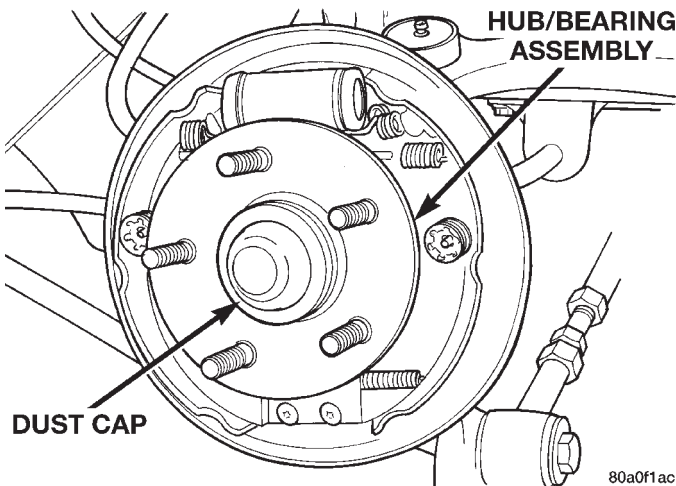

Fig. 79 Rear Hub/Bearing Dust Cap
- (5) Remove dust cap (Fig. 79) from rear hub/bearing assembly.
- (2) Install hub/bearing assembly dust cap, (Fig. 79) using a soft faced hammer.